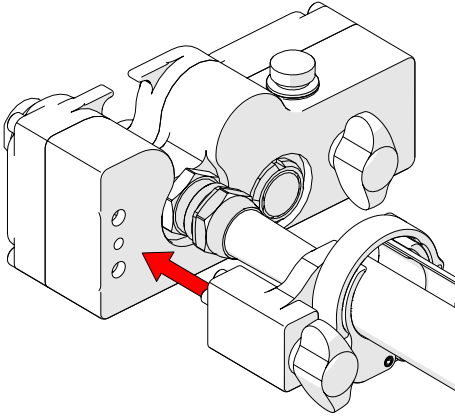

Fig. 258 - Align with umbilical
1. Align the cable management clamp with the appropriate mounting position on the umbilical (Fig. 258).